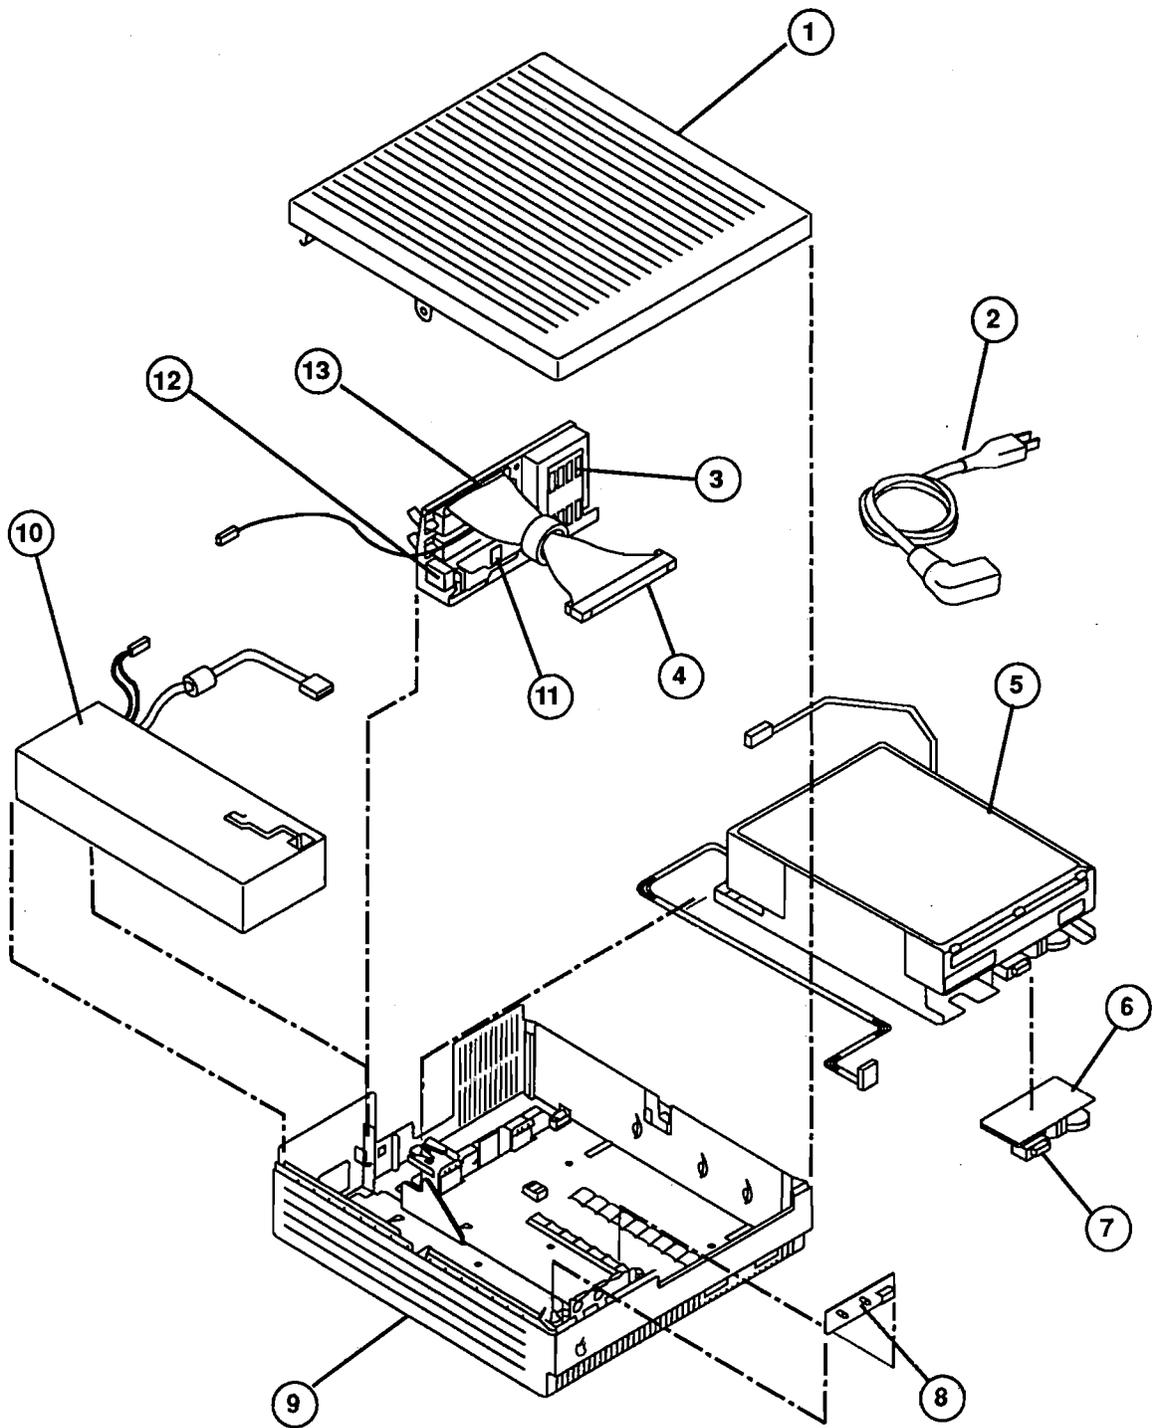

FIGURE 1
2. Disconnect the fan cable by releasing the little holding clip on the connector (Figure 1, #1).
IPL.3 AppleCD SC Drive Mechanism (Figure 1)
□ APPLE CD SC DRIVE MECHANISM (Figure 1)